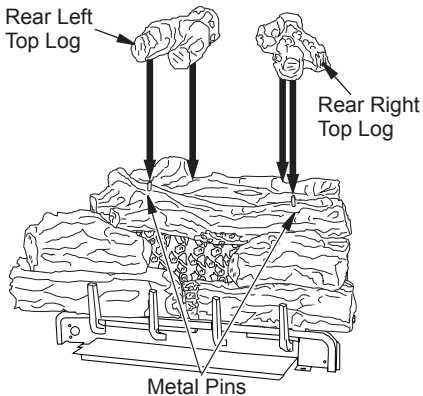

Figure 35 - Installing Rear Left Top Log and Rear Right Top Log
- Place the rear left top log on top of the middle log and the rear log. Match the pin on the middle log with the round hole in the bottom of the rear left top log (see Figure 35). The rear log has a flat area for the back of the rear left top log to set in.
- Place the rear right top log on top of the middle log and the rear log. Match the pin on the middle log with the round hole in the bottom of the rear right top log (see Figure 35). The rear log has a flat area for the back of the rear right top log to set in.